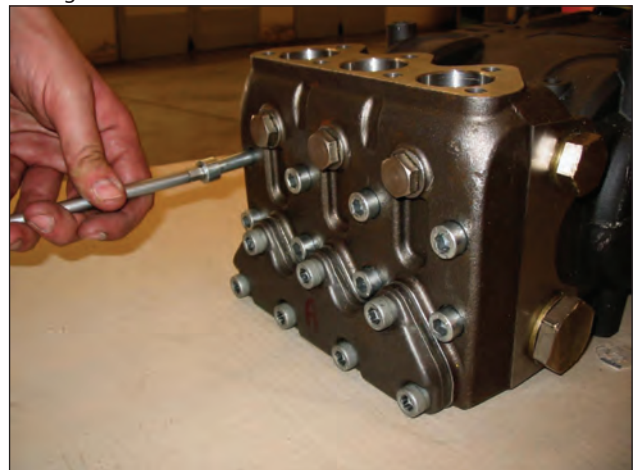

Fig. 20
A) Unscrew the M10x110 head fixing screws as indicated in Fig. 20.